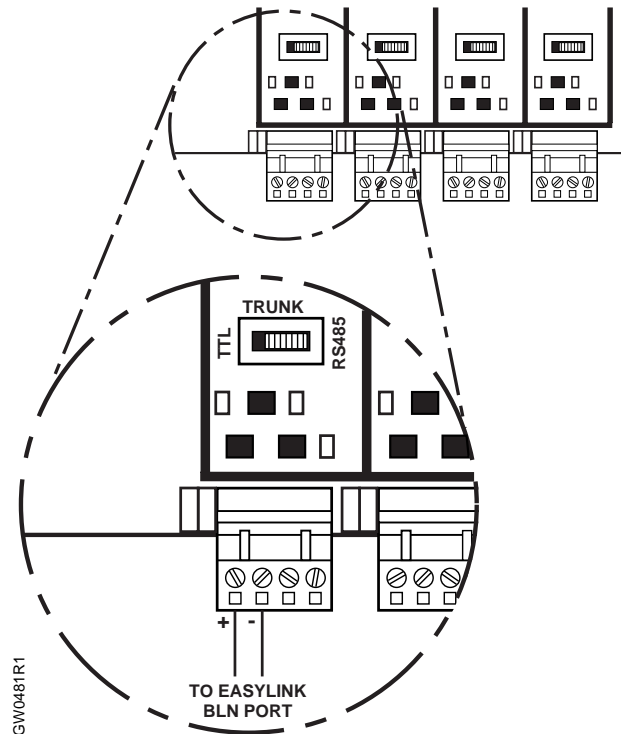

Figure 5. Staefa Net Controller TTL/485 Switch.
2. Move the TTL/485 switch to the RS-485 position for the trunk that is dedicated to Easylink (Figure 5).